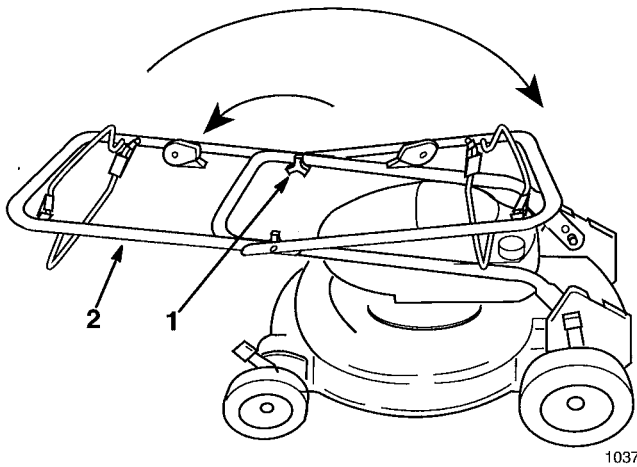

Figure 1
1. Loosen handle knobs and lift top handle half in an arc until handle halves are in line and nest together (Fig. 1).